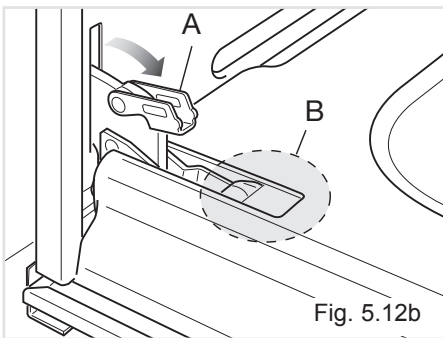
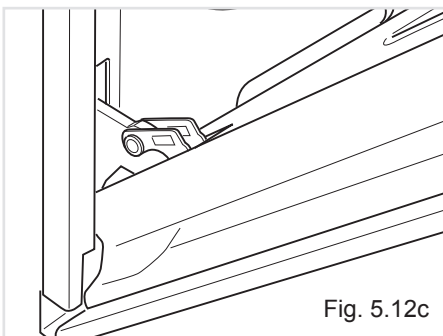

Fig. 5.12b
Fig. 5.12c
- Open the lever "A" completely on the left and right hinges (fig. 5.12b).
- Gently close the door (fig. 5.12c) until left and right hinge levers "A" are hooked to part "B" of the door (fig. 5.12b)